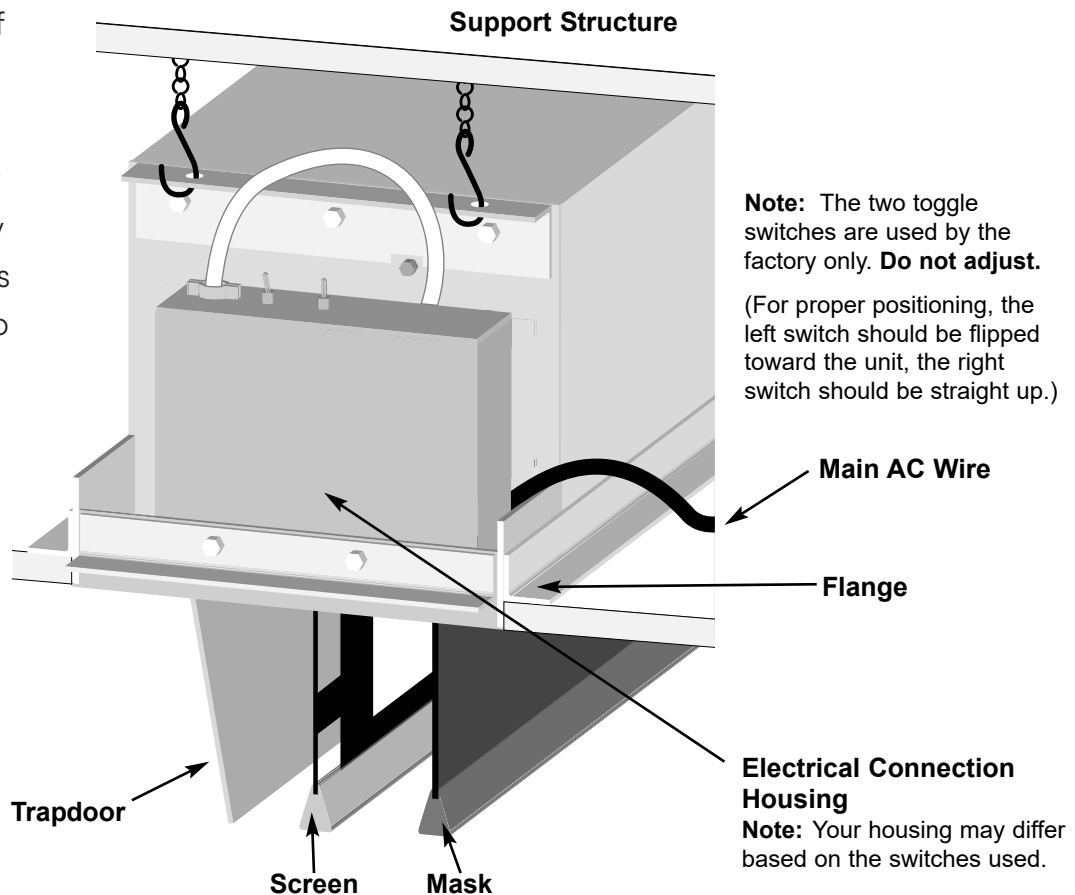

Figure 3: Side view
4. Drywall or other ceiling material may be screwed directly to the ceiling flanges on the case. Refer to Figure 3.